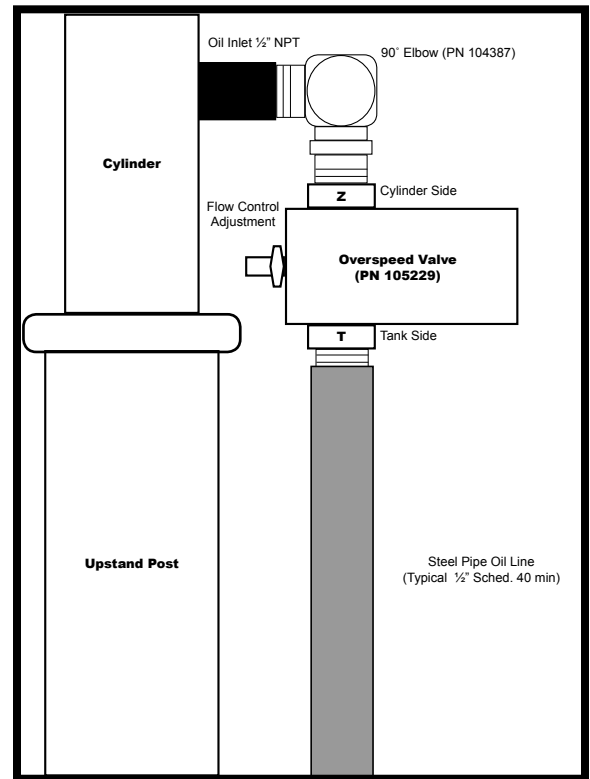

Figure 49 Overspeed Valve
- 2) Install the Overspeed Valve (PN 105229) to the elbow adaptor (PN 104387). Use Teflon tape to seal the threads. Refer to Figure 49.